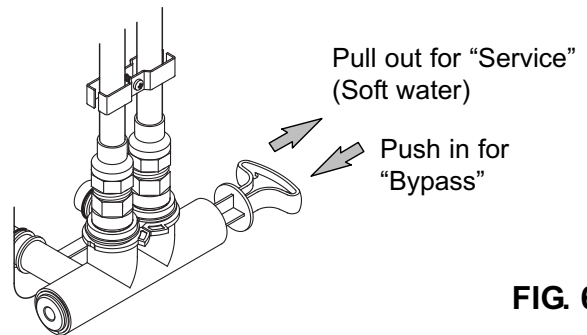

FIG. 6
Always install either a single bypass valve (provided), as shown in Figure 6, or, if desired, parts for a 3 valve bypass system (not included) can be purchased and assembled, as shown in Figure 7. Bypass valves allow you to turn off water to the softener for maintenance if needed, but still have water in house pipes. Pipe fittings must be 3/4" minimum.
2. Place the bypass valve (single or 3 valve) into the "bypass" position. See Figures 6 & 7 on Page 7.